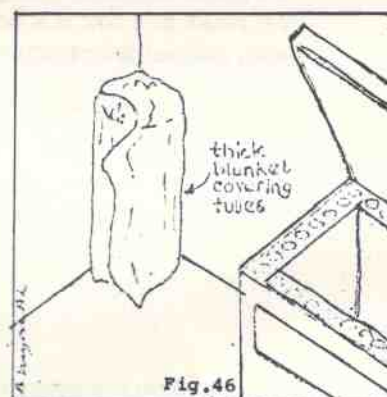

Fig.46
3. Take the frozen ice lining tubes out. Keep them close together in a upright position, wrapping them together with a thick blanket or similar insulating material (fig. 46).